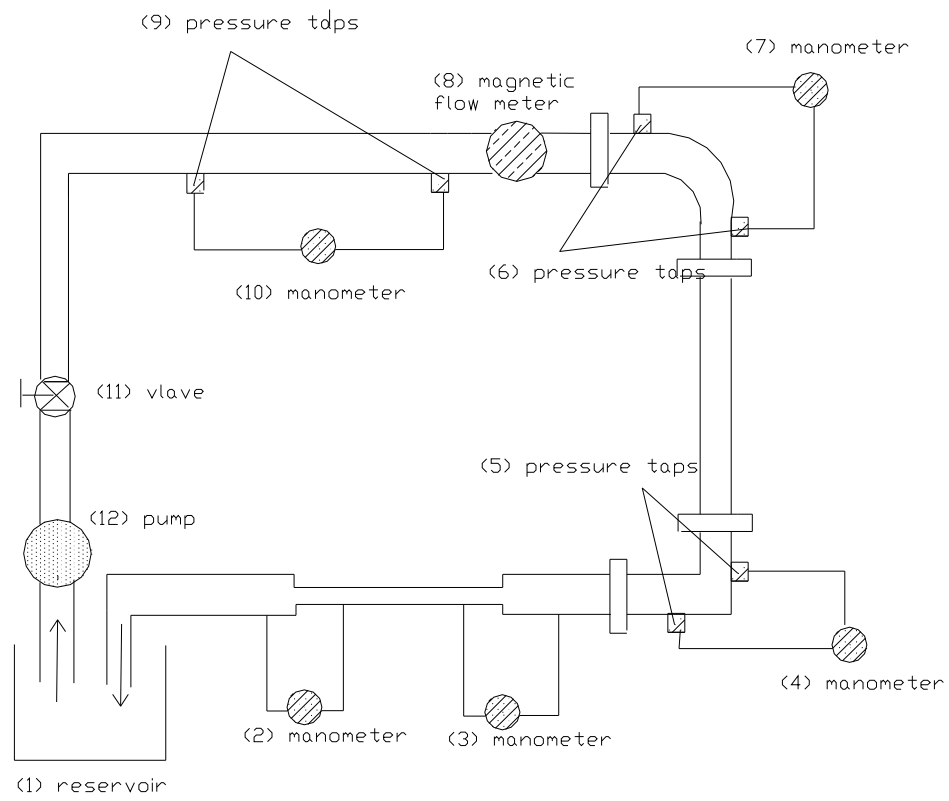

Figure 1 Friction in Pipe and Similarity Law
Fully assembled experimental apparatus is shown in Fig.1. The apparatus consists of:
1. Set up the experiment according to Fig.1
6. Measure the pressure drop from the five manometers in the figure 1.